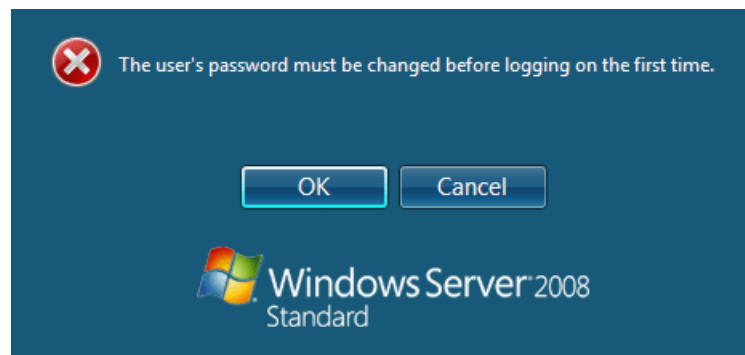

Figure 9-150 Password prompt after installing Windows
18. When Windows is done installing and you are prompted to enter a password (Figure 9-150), click **OK**, and then enter your password.